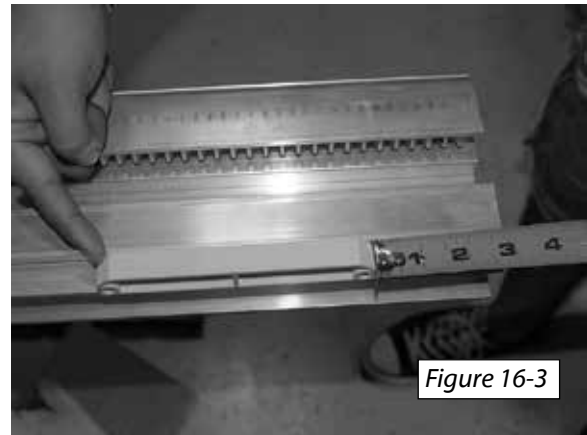

Figure 16-3
8. Position the end of the cam at 2-3/4" within the end of the rail. Secure the limit cams with (2) 10-24 screws and square nuts (provided). [Figure 16-3]